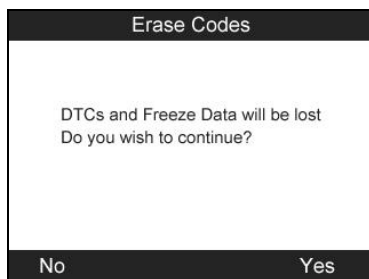

Figure 4.28
- 2) The tool will display a warning message for your confirmation. Press the **Y** button to continue, or **N** button to exit. (Figure 4.28)